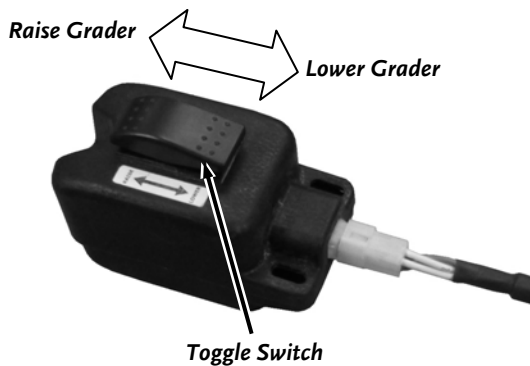

Figure 44
1. Push the Button on the Control Box at the "RAISE" position to lift the Grader fully off ground (**Figure 44**).